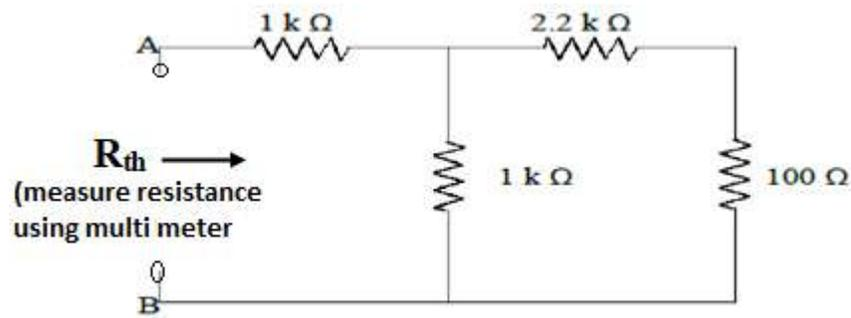

Fig. 1.4
- Disconnect the circuit and connect as per the Fig. 1.4.